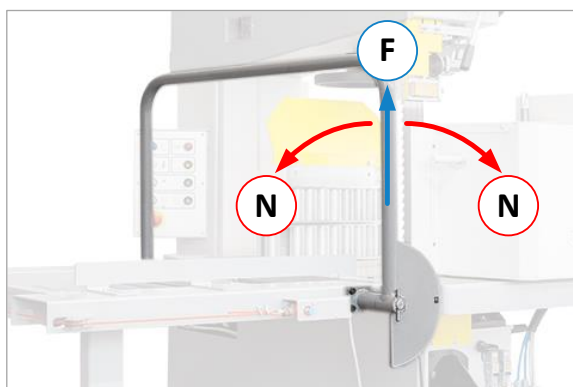

Figure 36: Positions of the emergency stop bracket
- The switch bracket allows sawing operation when it is in its centre position (F), see ⇒ Figure 36.
- As soon as the bracket is pulled forward or pushed back, the position switch (S) is triggered. The machine is set to the emergency stop state (N), see ⇒ Figure 36.